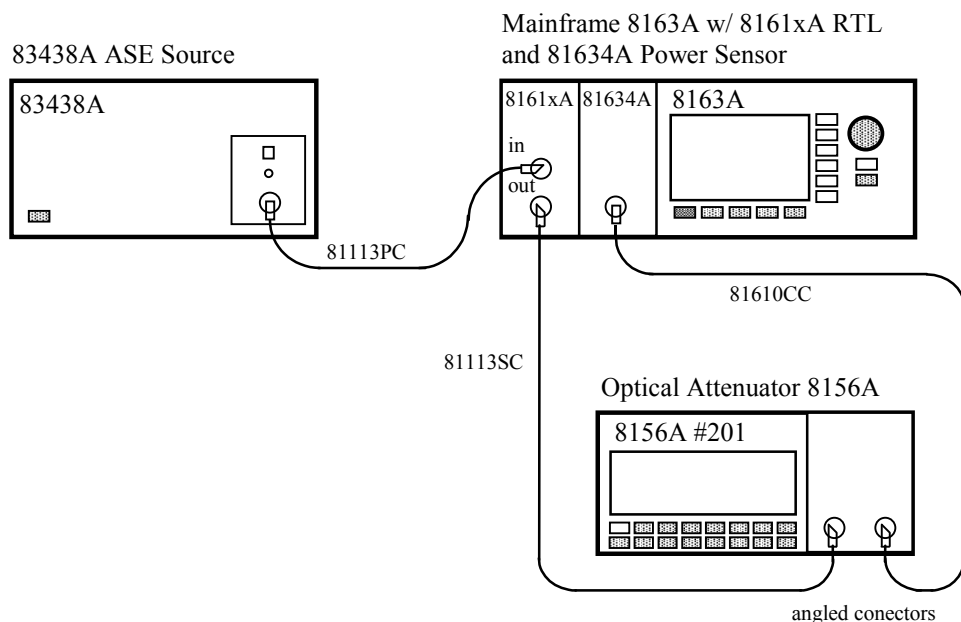

Figure 38 Relative Uncertainty of Return Loss - Performance Test Setup
- 9 Setup the equipment as shown in **Figure 38**. Use an optical attenuator with angled connectors, and connect the angled connector of the 81610CC Reference Cable to the output of the attenuator.